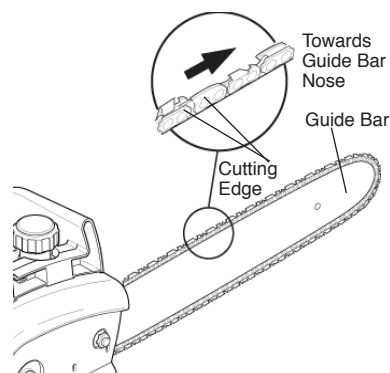

Figure 4 - Saw Chain Direction
6. Place chain around drive sprocket, along top groove of guide bar, and around guide bar nose. **Note:** Make sure cutting edges of chain are facing in right direction. Position chain so cutting edges on top of guide bar face guide bar nose (see Figure 4 and indicator on side cover of saw).